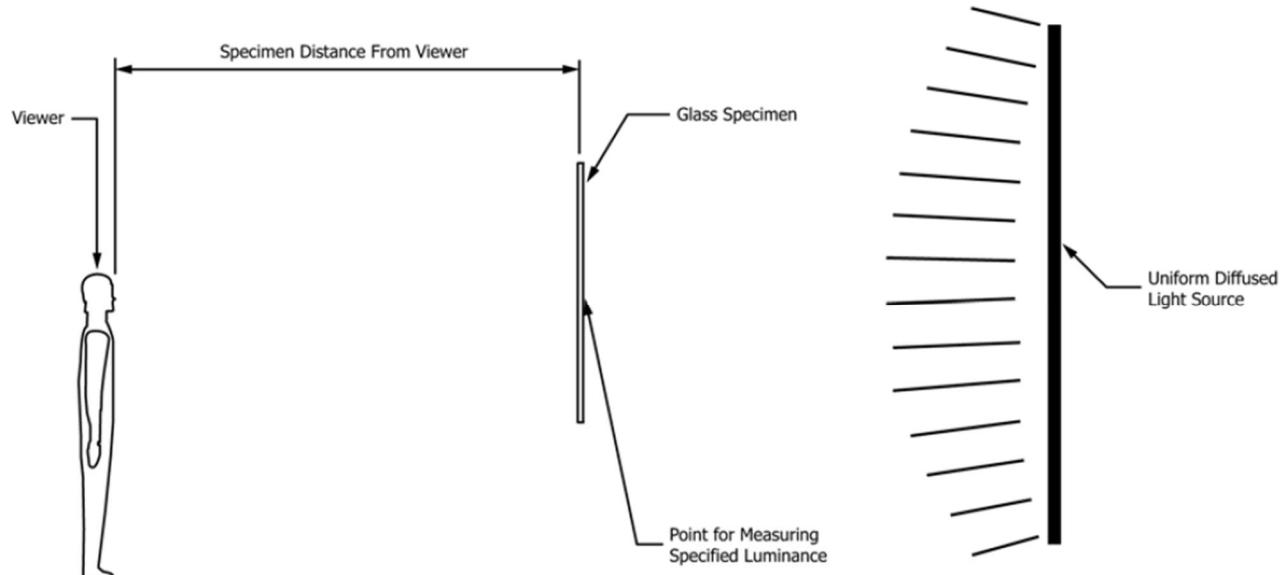

FIG. 1 Viewing Conditions for Blemish Detection
INSTRUCTIONS FOR FIGURE 1 VIEWING CONDITIONS FOR BLEMISH DETECTION:
- As you use the FIGURE 1 inspection criteria, begin viewing at the maximum specified viewing distance for the product and applicable blemish. Progress sequentially to each of the shorter distances noted (if applicable).
(FIGURE 1) Viewing Conditions for Blemish Detection
- To determine linear blemish intensity, start inspection at **10'** per viewing conditions described in FIGURE 1
- Inspect for point blemishes at **3'** per viewing conditions described in FIGURE 1. All point blemishes not readily apparent at this distance are allowed
- Edge chips: not allowed if visible from **3'** when viewed per FIG. 1
- Corner chips: not allowed if visible from **5'** when viewed per FIG. 1
- Polish or grind marks: not allowed if visible from **5'** when viewed per FIG. 1